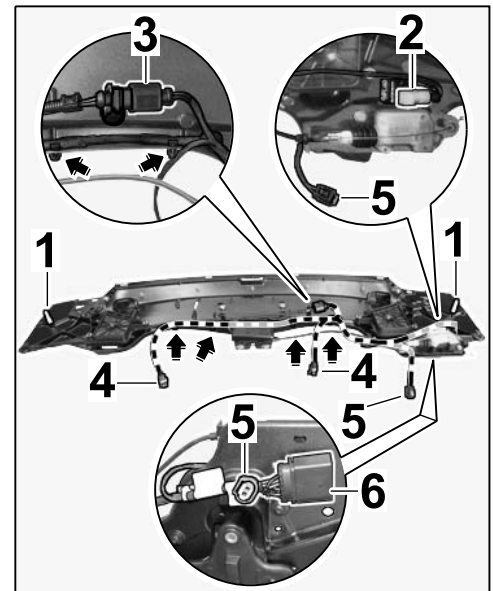

Figure 10
3.2.2 Position electric wire harness on the mounting bracket and secure with four retaining clips (⇒ Figure 10 -arrows-).
Connect plug connections and secure on the mounting bracket (⇒ Figure 10).